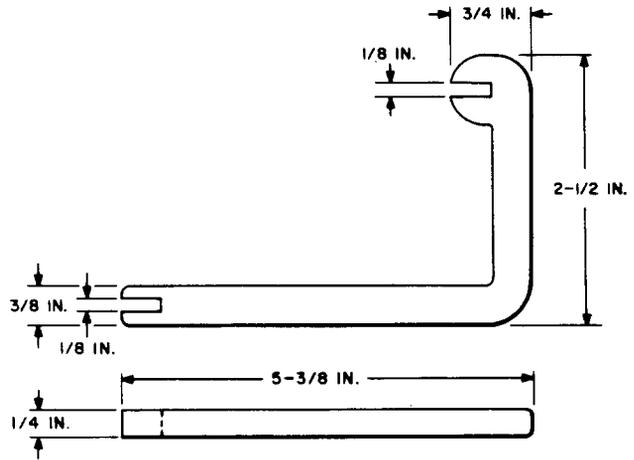

Fig. 6—AECO H-13398-1 Adjuster Tool
2.06 AECO H-13398-1: The AECO H-13398-1 tool (Fig. 6) is a vertical armature adjuster used on 197- and 198-type switches. It replaces the AECO H-7056 tool.